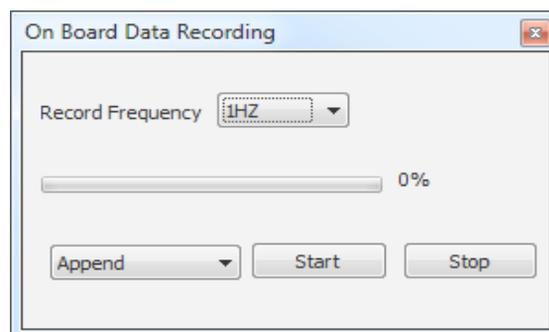

Fig. 6.8.34 Airborne data record
The pop-up interface of Airborne Data Record is shown as Fig.6.8.34. Click “Start record”, S40/S50 automatically records the flight data information according to the recording frequency.
**Tips:** select the downloading area as per the percentage for GCS40 flight data downloading. Therefore, check the current recording progress before takeoff and after landing (shown as Fig. 6.8.34). The data between the two recording progresses is the flight data recorded.